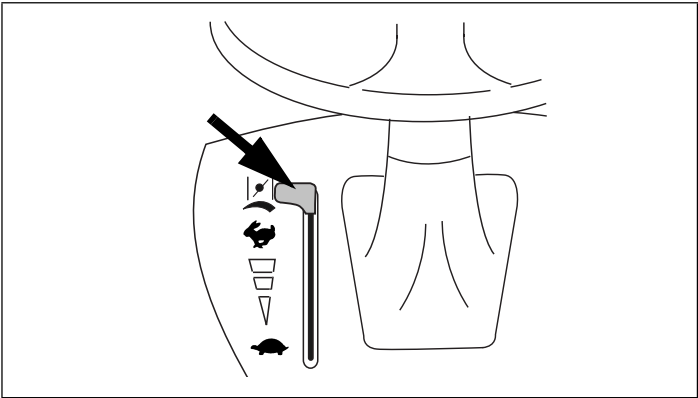

Figure 13. Combined Speed and Choke Control
- 2. Move combined control to "CHOKE" or "START" position, if present (see equipment manufacturer's instructions). See Figures 13 and 14.
If restarting a warm engine after a short shutdown, move combined control to "FAST" instead of "CHOKE" or "START" position. See Figures 13 and 14.